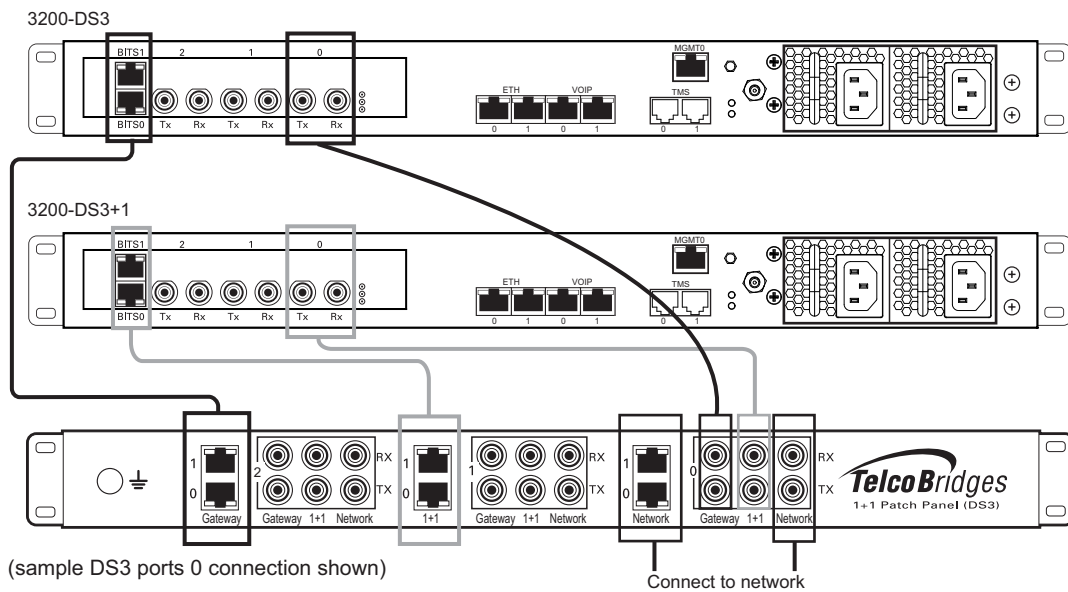

Figure 2.14 3200-DS3 and 3200-DS3+1 connecting to the TDM 1+1 DS3 1+1 patch panel
A 3200-DS3 and 3200-DS3+1, each with 3 sets of BNC connectors, enables the connection to DS3 lines. See Figure 2.14 on page 33.
1. Connect each DS3 line from the network section of the 1+1 patch panel to the remote equipment. See Figure 2.14 on page 33.